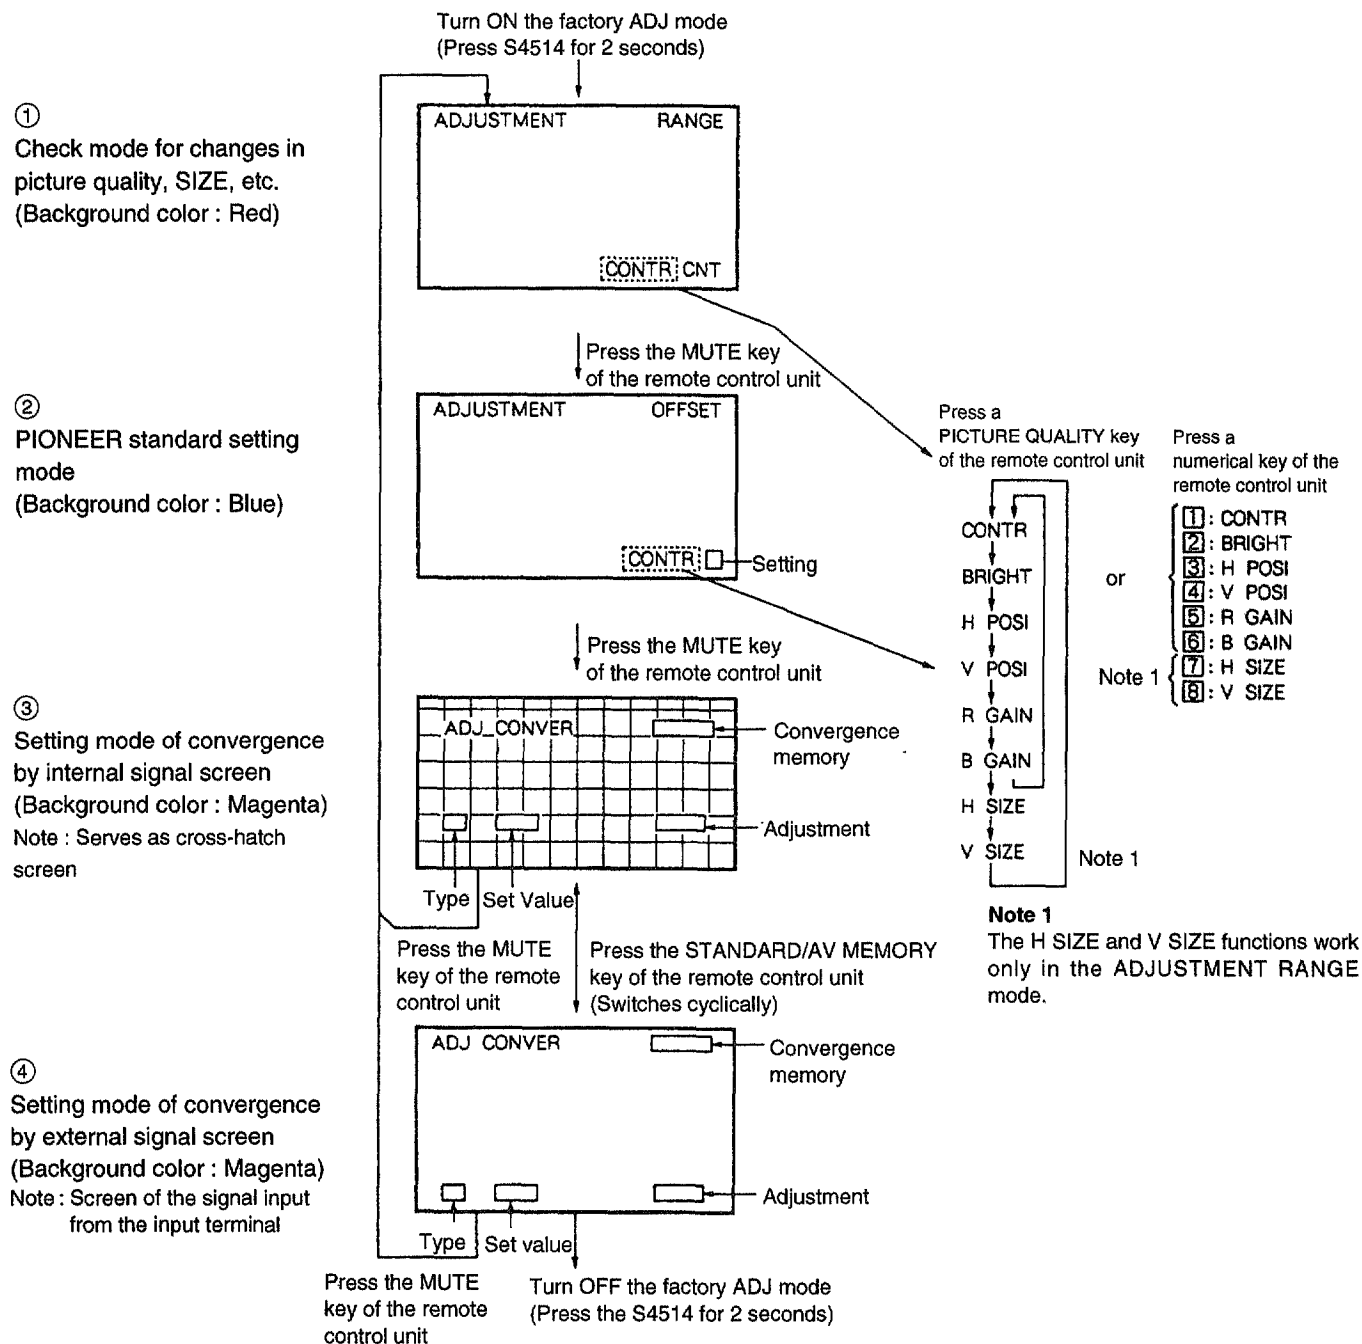

Fig. 8-1 Screen display in the factory ADJ mode.
① ADJUSTMENT RANGE mode
When the S4514 switch on the front control (Refer to Fig. 8-10.) is pressed and the factory ADJ mode is turned ON, the ADJUSTMENT RANGE mode screen shown in ① of Fig. 8-1 will be displayed.
② ADJUSTMENT OFFSET mode
When the MUTE key on the remote control unit is pressed, the mode changes from the ADJUSTMENT RANGE mode to the ADJUSTMENT OFFSET mode as shown in ② of Fig. 8-1.
③ ADJ CONVER mode (Internal signal screen)
When the MUTE key on the remote control unit is pressed, the mode changes from the ADJUSTMENT OFFSET mode to the ADJUSTMENT CONVER mode as shown in ③ of Fig. 8-1.
④ ADJ CONVER mode (External signal screen)
By pressing STANDARD/AV MEMORY key of the remote control unit, the screen of the ADJ CONVER mode can be cyclically switched between the ③ internal signal screen shown in Fig. 8-1 and ④ external signal screen shown in Fig. 8-1. The convergence adjustment can be performed using the external signal.